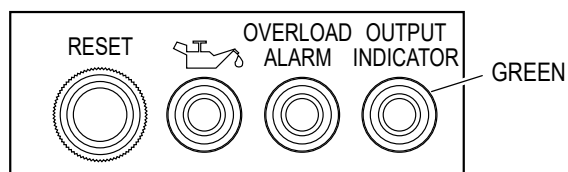

Figure 21. Output Indicator (GREEN)
9. Check that the output indicator stays on (green) (Figure 21). The overload alarm (red) will turn on for a few seconds at startup but this does not indicate an error.